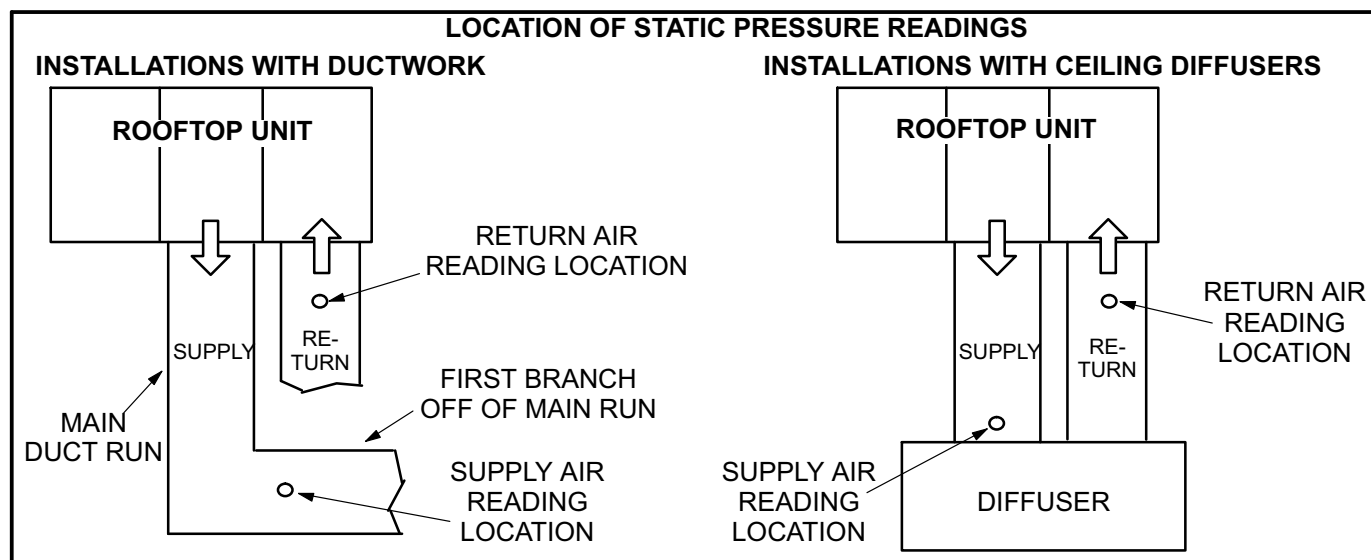

FIGURE 17
- 2- With all access panels in place, measure static pressure external to unit (from supply to return). Blower performance data is based on static pressure readings taken in locations shown in figure 17.